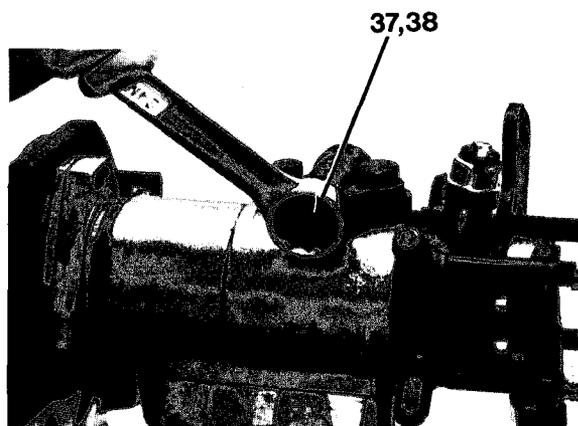

Figure 7-23
10. Install O-ring (38) and pressure end cap (37, Figure 7-23) into timing housing. Torque pressure end cap (37) to 17.5 lb-ft (23.7 N•m)